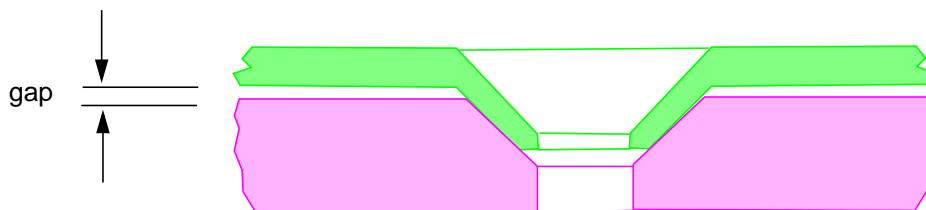

Figure 10 - Dimpled Sheet Separation
- 5.4.2 Where a dimpled sheet nests into another dimple or into a countersink, as shown in Figure 10, ensure that a small gap or sheet separation, from 0.001" - 0.010", exists between sheets.